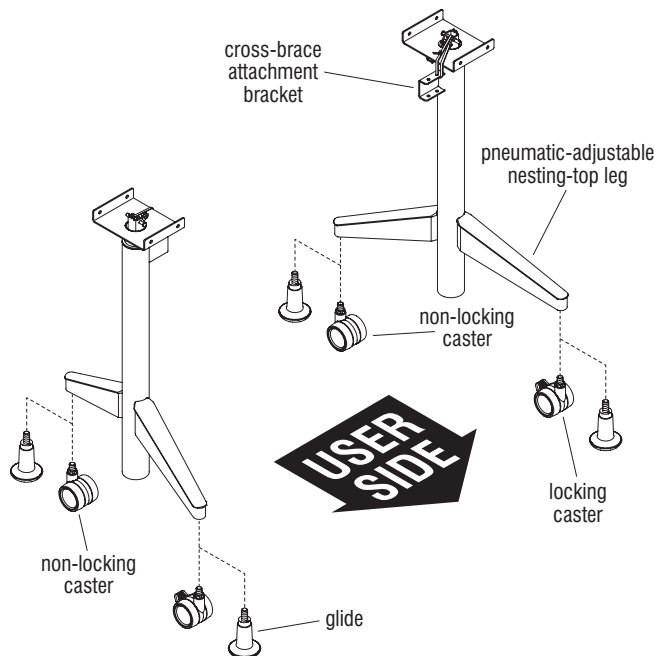

Figure 1 - (Leg Kit Item #HPN24)
2. Carefully stand the two pneumatic-adjustable legs to the upright position with cross-brace attachment brackets facing each other as illustrated. Orient the legs so the cross-brace attachment brackets on each leg post are inline to each other, then identify the side of the leg pair that has a larger gap between the feet. The side with the larger gap is the user side and eventually will be placed at the user side of the tabletop (Figure 1 & Detail A).
4. Locate the locking and non-locking casters. Locking casters are to be installed to the front, user side of each leg, and non-locking casters are to be installed to the rear of each leg. Use a  $\frac{3}{4}$ " open end wrench to tighten casters to the foot of each leg (Figure 1).
6. Thread the stems of two glides into the threaded inserts at the underside of each foot by hand. Twist the glides in clockwise, fully to the bottom of the feet (Figure 1).